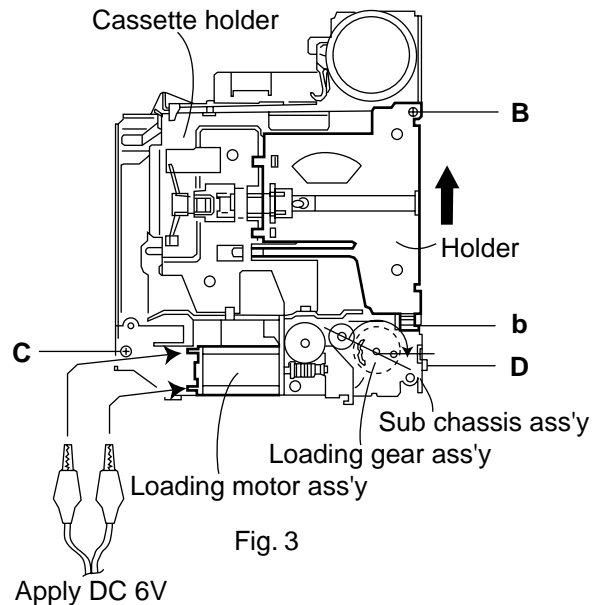

Fig. 3
■ Removing the cassette holder and arm ass'y (see Fig.3)
3. Apply DC 6V to the lead wire of the loading motor ass'y and turn the load gear ass'y to the position shown in Fig. 3.